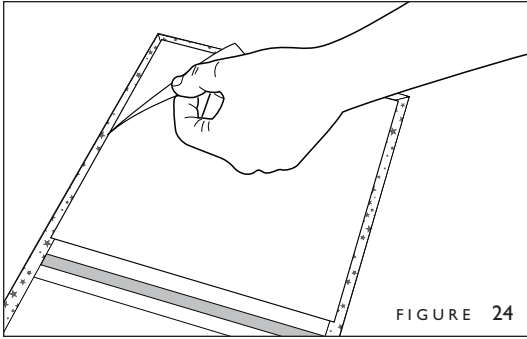

FIGURE 24
1. Start by peeling the release liner slightly from the outside of the cover (Figure 24).